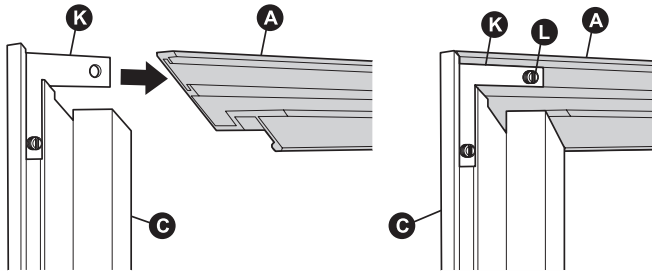

Figure 3
- Join each side trim (B and C) to the top trim (A). Make sure the ends of the Grill Assembly are captured in the channel of each side trim, then tape in place. Gently secure brackets (K) to top trim (A) by tightening set screws (L), only until snug to avoid dimpling the trim face. **DO NOT OVERTIGHTEN.** See Figure 3.